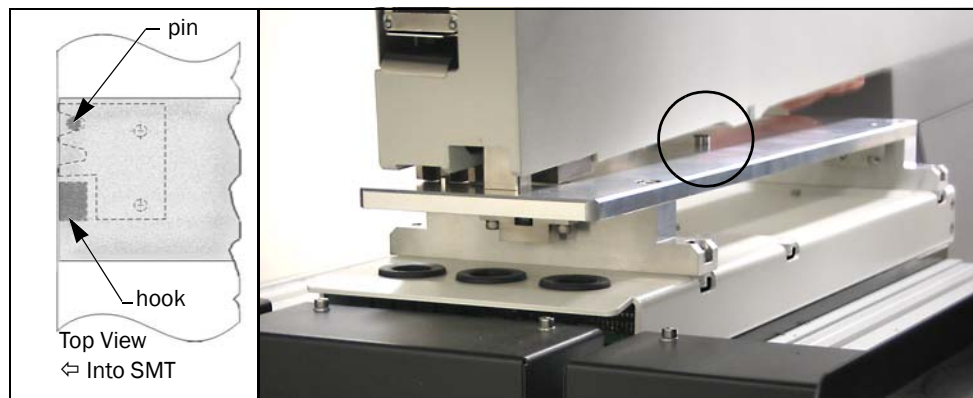

Figure 2-6—Installing RoadRunner onto the Feeder Bank Adapter. A dowel on the Adapter (circled) mates with the RoadRunner nose.
3. Lower RoadRunner letting the Adapter dowels mate up with the bushings in the RoadRunner. Refer to Figure 2-6.